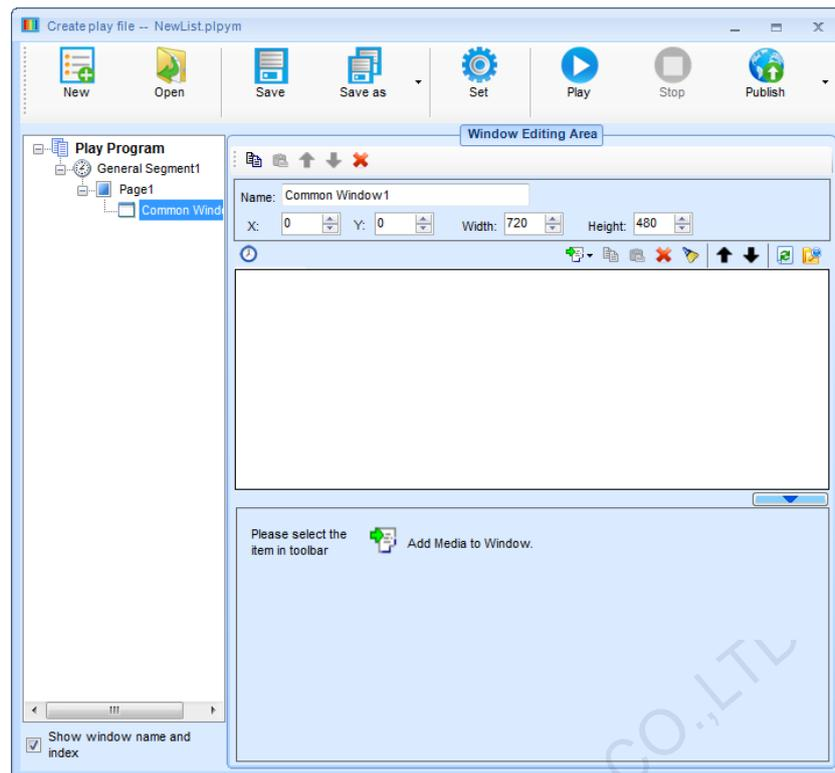

Fig. 9-17 Play window information
- a) Click Select Display in Fig. 9-17.to enter the terminal list.